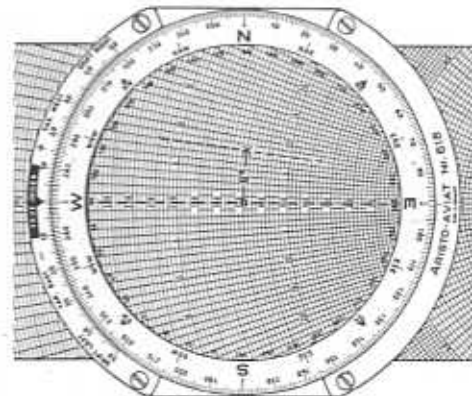

Fig. 57
- (6) Set distance to go 170 under center bore and find the course correction angle  $8^\circ$  (fig. 57).
- (7) To the true heading ( $100^\circ$ ) apply the total correction  $6\frac{1}{2}^\circ + 8^\circ = 14\frac{1}{2}^\circ$  leftward to obtain the new heading  $85\frac{1}{2}^\circ$  to be maintained to destination. This operation can also be performed with the arc wing DRIFT LEFT.